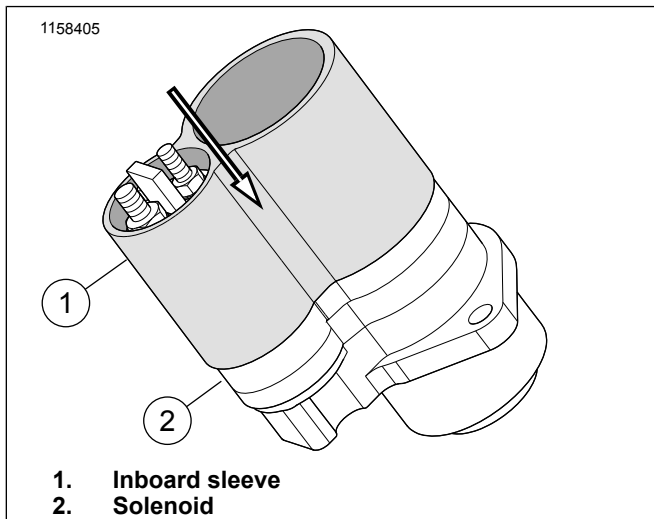

Figure 6. Place Inboard Sleeve on Reverse Motor
13. Figure 6 Place larger of the inboard sleeve (1) on motor end of reverse motor. Align smaller opening with solenoid (2).